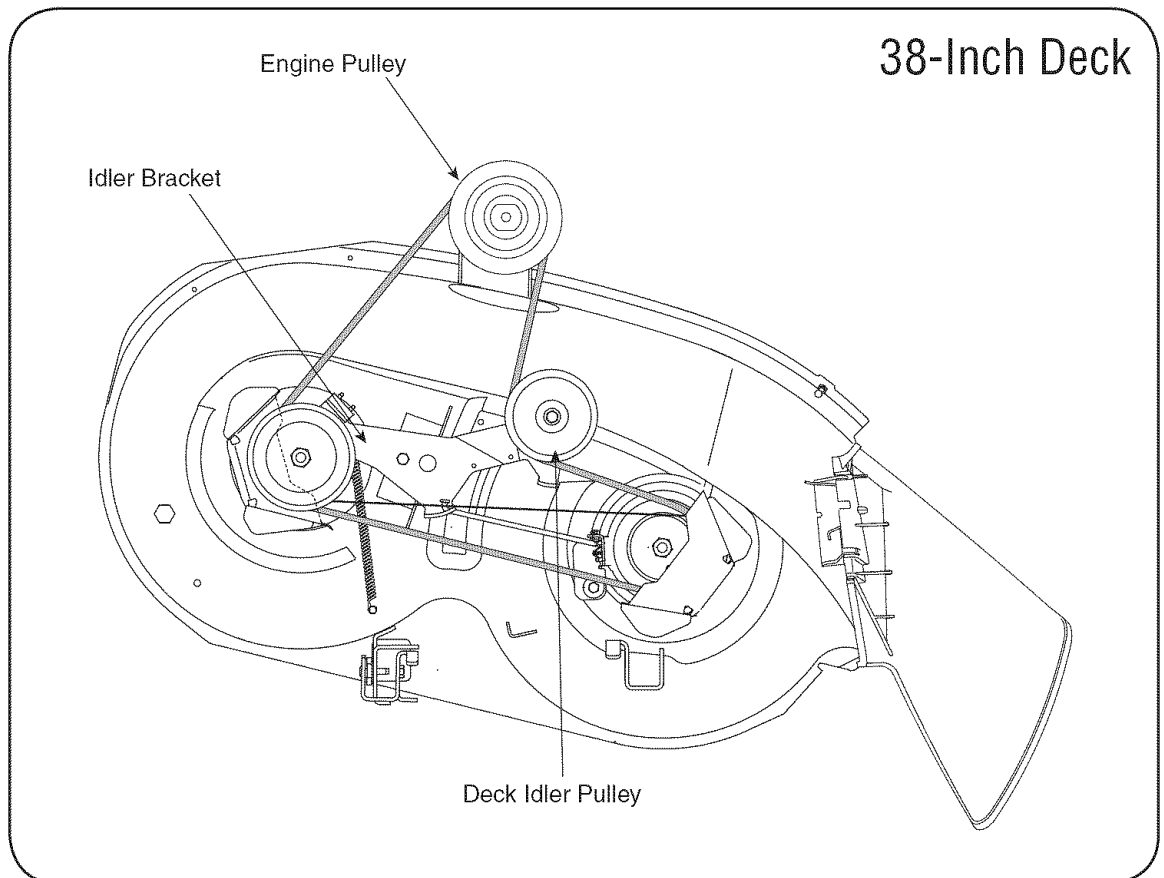

Figure 6-8
6. Route the new belt as shown in and Fig. 6-8, 6-9 or 6-10.